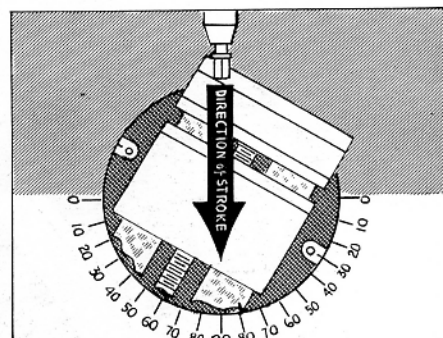

FIG. 143
3. Loosen the clamping nuts and move the vise around from the zero position until the zero mark on the vise coincides with the desired degree on the base (Fig. 143).